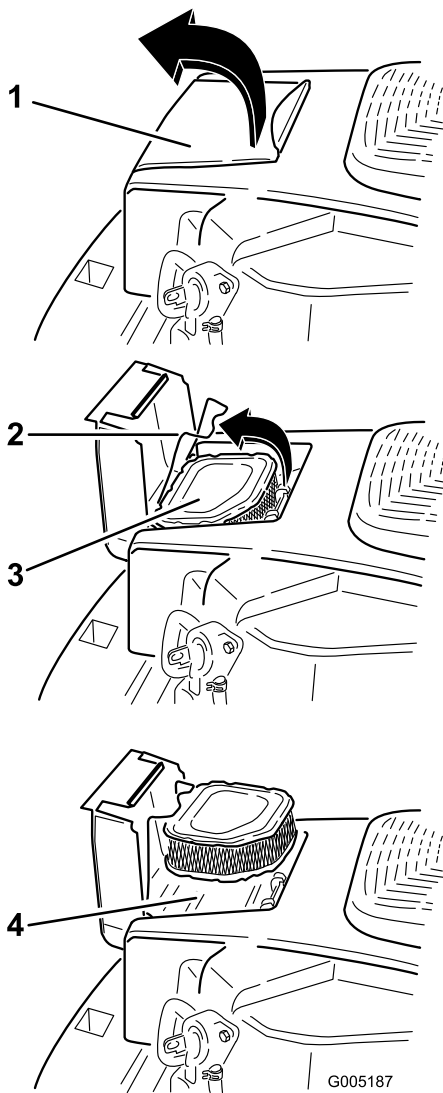

Figure 22
1. Open the air cleaner cover door on the blower housing to access the air cleaner element (Figure 22).
2. Unhook the latch and remove the air cleaner element (Figure 22).